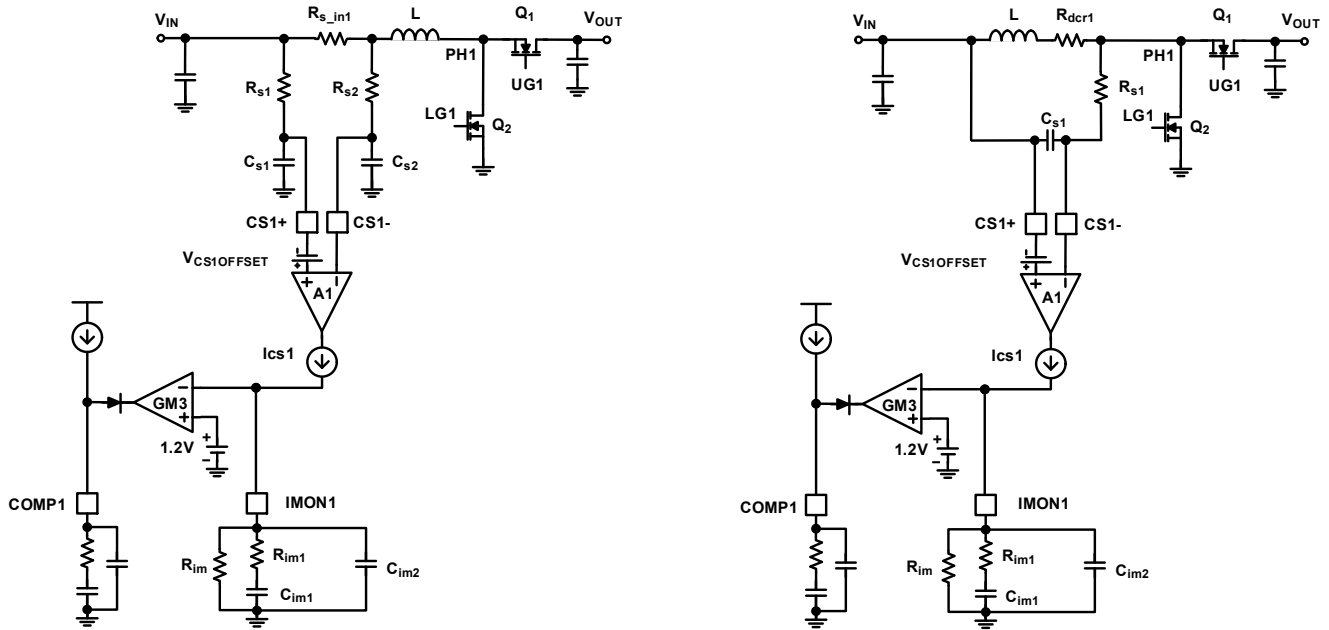

Figure 31. Input Average Current Monitoring and Regulation Loops
The ISL81807 has two current-sense amplifiers (A1 and A2) that monitor the input current of both channels. Figure 31 (A) shows the ISL81807 Channel 1 current shunt sense and monitor circuit, which is identical to Channel 2. The voltage signal on the current sense resistor R_{S_IN1} is sent to the differential input of CS1+/CS1-, after the RC filters R_{S1}/C_{S1} and R_{S2}/C_{S2} . Renesas recommends using a 1Ω value for R_{S1} and R_{S2} , and a 10nF value for C_{S1} and C_{S2} to effectively damp the switching noise without significantly delaying the current signal or introducing too much error by the op-amp bias current. The A1 amplifier converts the current sense voltage signal to the current signal I_{CS1} .
Figure 31 (B) shows the ISL81807 Channel 1 inductor DCR current sense and monitor circuit. R_{DCR} plays the same role as R_{S_IN} in the shunt current sense circuit. Renesas recommends keeping $R_{S1} \times C_{S1} = L/R_{DCR}$. To minimize the error caused by the A1 input bias current, Renesas recommends keeping R_{S1} less than $10k$.
When DE mode is set, the Channel 1 and 2 boost sync FET driven by UG1 and UG2 are all running in DE mode. The inductor current is not allowed to reverse (discontinuous operation) depending on the zero-cross detection reference level V_{CROSS1} for Channel 1 and V_{CROSS2} for Channel 2 sync FET. At light-load conditions, the converter goes into diode emulation. When the load current is less than the level set by $V_{IMON1BSTEN}$ or $V_{IMON2BSTEN}$ typical 0.815V on the IMON1 or IMON2 pin, the Channel 1 or 2 enters Burst mode. Equation 9 sets the Burst mode operation enter condition for Channel 1 (see Figure 31). The same equation also applies to Channel 2.
As shown in Figure 31 in Input Average Current Monitoring and Regulation Loops as an example, the inductor peak current is sensed by the shunt resistor R_{S_IN} and amplifier A1 for Channel 1. For both Channel 1 and 2, when the voltage drops on R_{S_IN} and reaches the set point $V_{OCSET-CS}$ typical 82mV, the low-side FET is turned off. The first level peak current limit set point I_{OCPP1} is calculated using Equation 12.
In cases of OVP protection, the inductor current becomes too negative. For the Channel 1 example, the negative current is sensed by the shunt resistor R_{S_IN1} and amplifier A1 as shown in Figure 31. When the voltage drops on